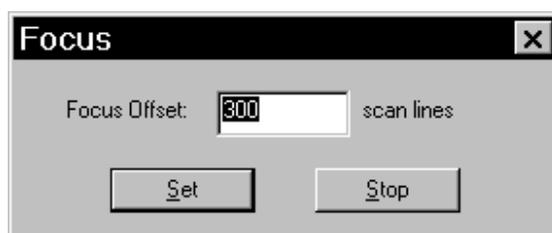

Figure 19-10. The Focus window.
1. Click **Continue**. The Focus window appears (figure 19-10).
16. Average the y-axis values. The average of the values is the focus offset value you type in the Focus window in the Instrument Control Manager (figure 19-10).
In the Instrument Control Manager, type the scan line focus offset value in the Focus window (figure 19-10) and click **Set**. The protocol focuses the capillaries. The instrument displays tell you that focusing is in progress.